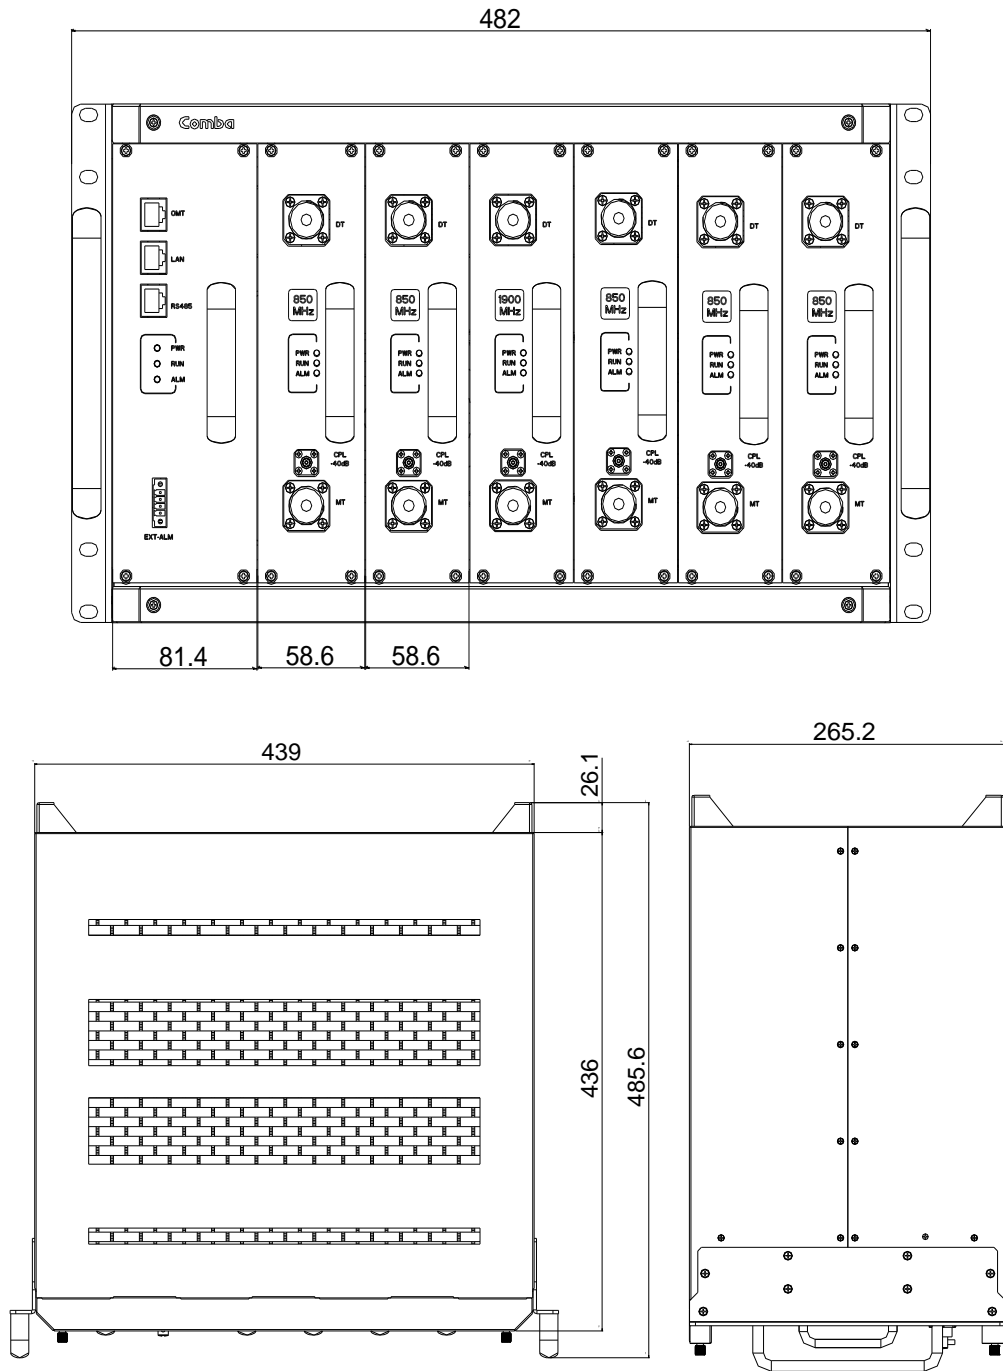

Figure 3: Layout of mBDA
Step1: The rack with cover plates is shown in Figure 3. Please remove the cover plates before installing related modules.